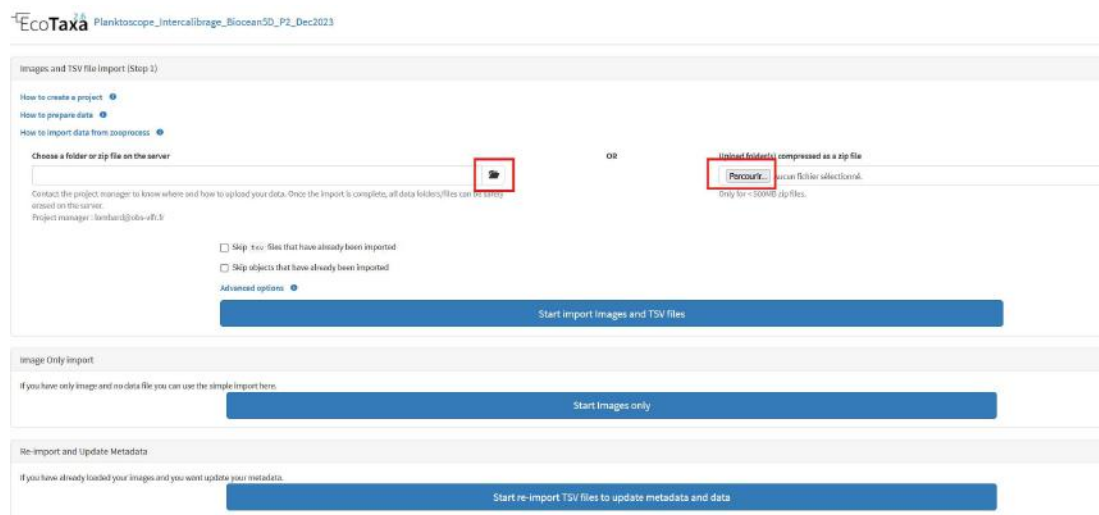

Figure 7: Data import interface
2. Locate your file on the EcoTaxa ftp folders and import it or upload your zip file directly (only works for one zip file at a time; Fig.7)